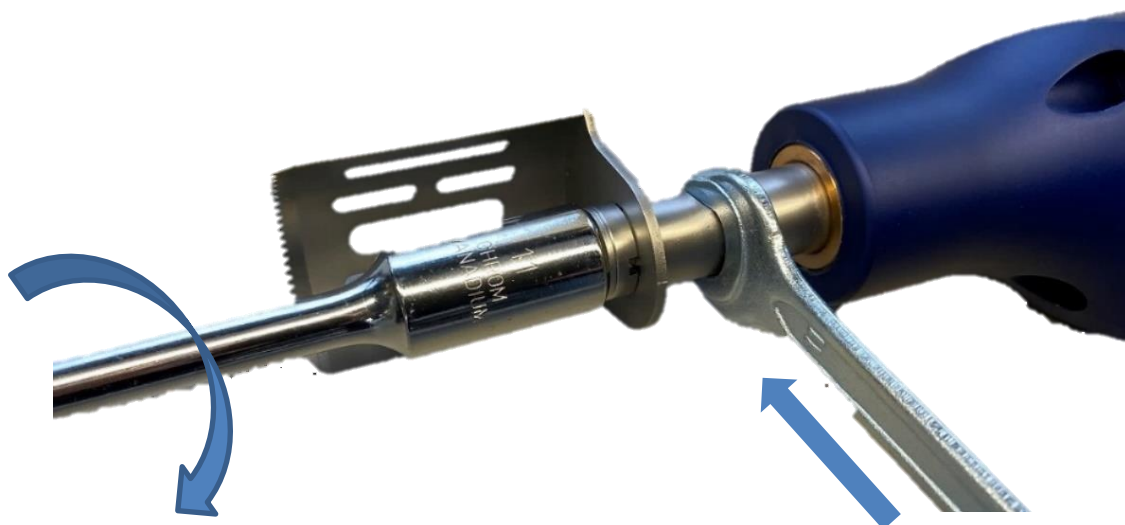

fig.2.1:
5. Use the fork wrench to hold the shaft while tightening the blade assembly with the T-handle wrench (see fig. 2.1).